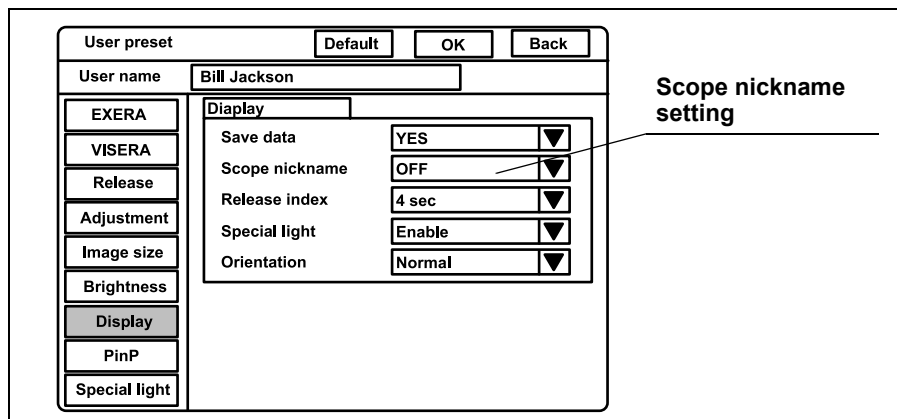

Figure 9.33
1. Click “ ▼ ” of “Scope nickname” (see Figure 9.33). The settings “Enable” and “OFF” appear in the pull-down menu.